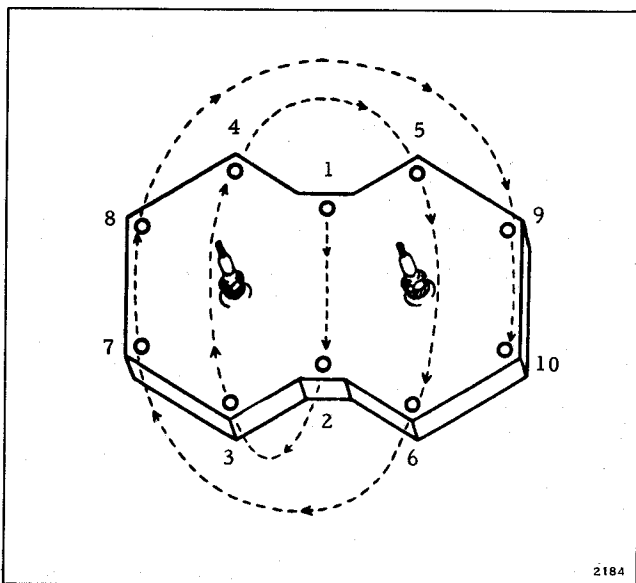

Figure 5-34. Cylinder Head Torquing Sequence
c. Install cylinder heads, using new gaskets. Tighten cylinder head bolts to specified torque, following the sequence shown. See Figure 5-34.